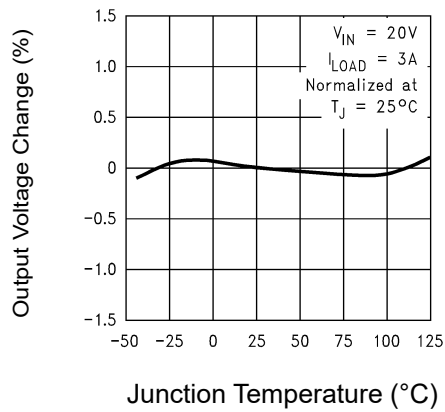

Figure 1: Normalized Output Voltage
ON/OFF CONTROL Test Circuit Figure 1
Note 5: External components such as the catch diode, inductor, input and output capacitors, and voltage programming resistors can affect switching regulator system performance. When the LM2596 is used as shown in the Figure 1 test circuit, system performance will be as shown in system parameters section of Electrical Characteristics.
11.1 Typical Characteristic (Circuit of Figure 1)